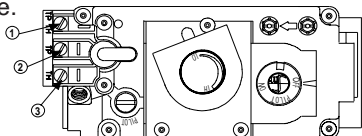

FIGURE 20
4. Apply high temperature sealant to the outer edge of the of the outside sleeve of the air terminal. Slip a 7" diameter coupler over the sleeve and secure as before. **FIGURE 20.** Trim the 7" coupler even with the 4" coupler end.